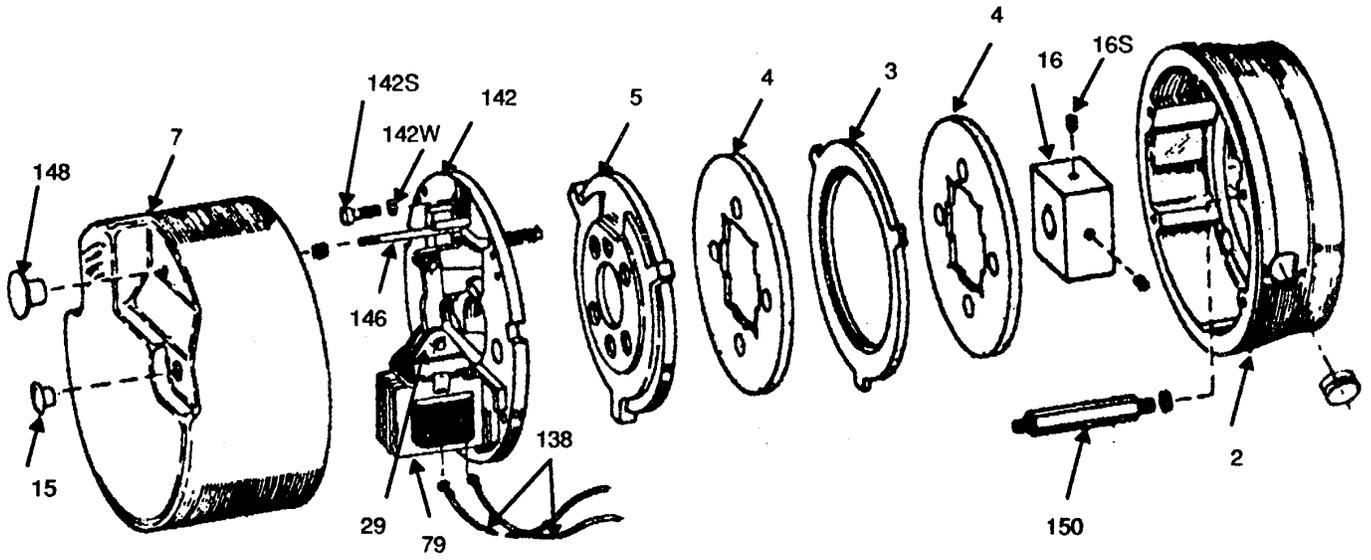
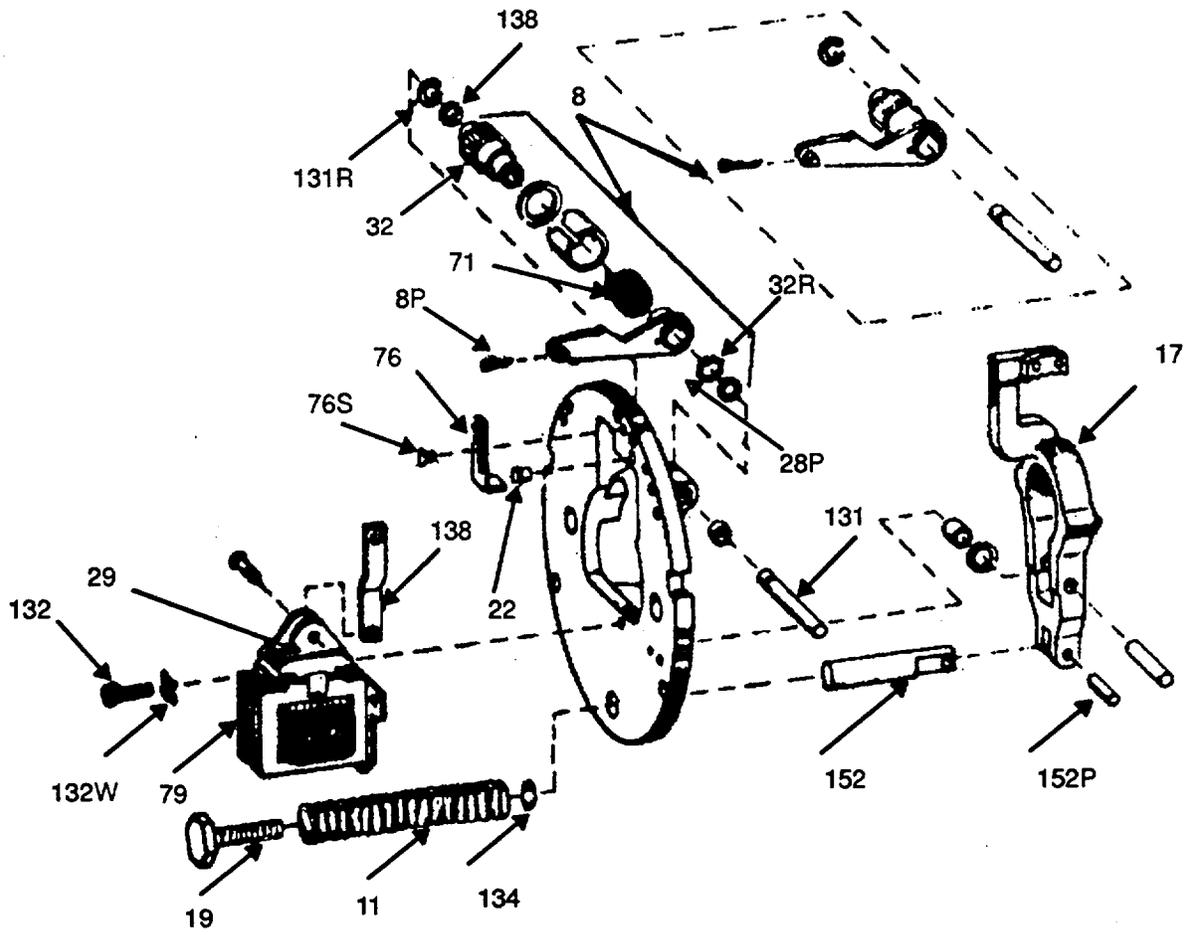

Figure 2-7. Spring Set Disc Brake
Figure 2-8. Self-Adjust Maintenance
- (1) Remove manual release knob (148), housing nuts (15) and housing (7) (see Figure 2-7).
- (2) Disconnect solenoid wires.
- (3) Depress solenoid plunger (29) and pull release rod (146) back to lock brake mechanism in manual release position. Tie plunger (29) to frame (79) when manual release rod (146) is not provided.
- (4) Remove entire support plate assembly (142) by evenly unscrewing screws (142S). Remove screws and lockwashers (142W).
- (5) Remove pressure plate (5), friction disc (4), and stationary disc (3).
- (6) Remove hub (16) and key by unscrewing set screws (16S).
- (7) Remove endplate (2) from end of motor unscrewing four 1/2-13 socket head cap screws.
- (4) Mount support plate assembly, torque screws to 90 in-lbs in aluminum endplate and to 120 in-lbs in cast iron endplate. Be sure that assembly is mounted with the solenoid in a vertical position (plunge above frame) same as Figure 2-7. If release rod (146) is not in manual release position and has allowed the mechanism to over adjust, it will have to be reset before mounting support plate. In this case the lever arm (17) (see Figure 2-8) throat will be near, or touching, the pinion (32) teeth. Refer to para 2-19.3 for self-adjustment maintenance. Loosen pressure spring cap screw (19) until pressure spring (11) is free, mount support plate assembly to endplate, and retighten spring cap screw until snug.